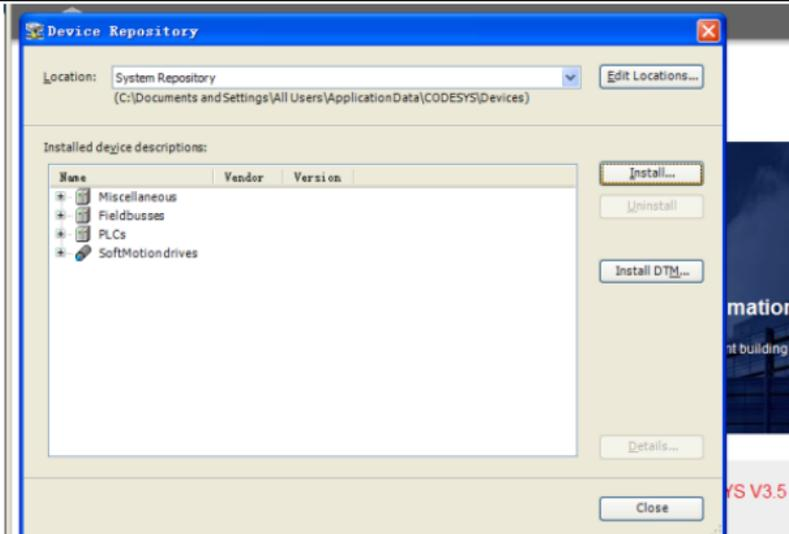

Figure 3-2
2. Click Install to install the device description file *Devdesc_v100.xml*, as shown in Figure 3-2. Select **All supported description files (*.xml;*.eds;*.dcf;*.gs?)** in **File Type** when you choose the file to be installed.